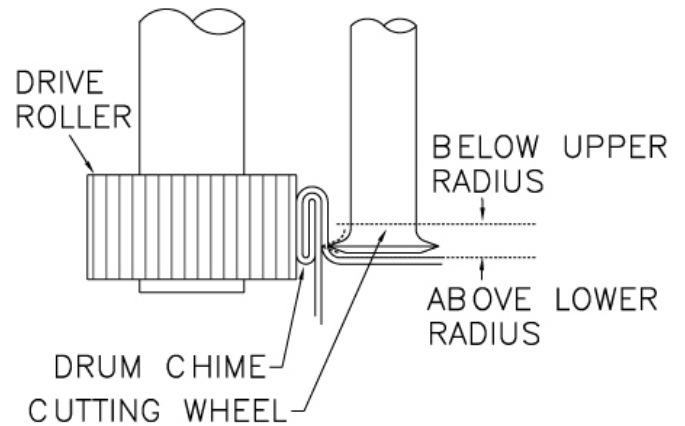
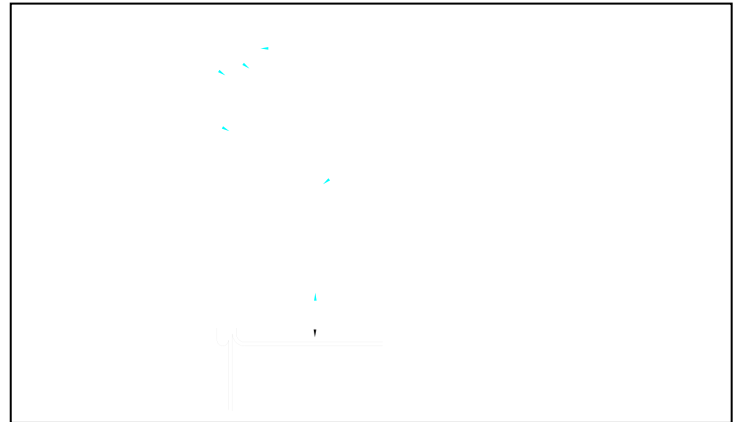

Figure 1: Proper positioning of cutting wheel.
Figure 2: Setting the cutting position.
1. Place the unit on the drum. Rest the chime rollers on the drum chime. Be certain the cutting wheel is to the inside of the drum, at least 1/8" above the lid. The chime should be between the washers on the guide rollers. The guide rollers should support the unit on the drum shell (see Fig. 1).
The shaft collar controls the height of the cut. Refer to Figure 1 for proper position and Figure 2 to set the height. Set the height as follows: